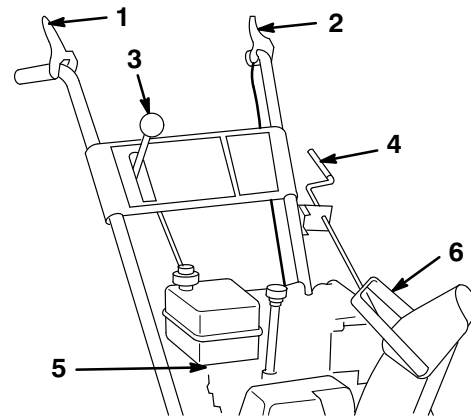

Figure 14
- **Auger/Impeller Drive Control Lever** (Fig. 14)—To engage both the auger and impeller, press the lever against the right handgrip. To disengage, release the lever.
- **Traction Control Lever** (Fig. 14)—To engage the traction (wheel drive), press the lever against the left handgrip. To stop traction, release the lever.
- **Speed Selector** (Fig. 14)—This control has four positions: one reverse and three forward speeds. To change speeds, move gear the shift to the desired position. The lever locks in a notch at each speed selection.
- **Discharge Chute Control** (Fig. 14)—Rotate the discharge chute control clockwise to move the discharge chute to the left and counterclockwise to move the chute to the right.
- **Fuel Shut-off Valve** (Fig. 14)—Close the valve by rotating it to the right to stop fuel flow from fuel tank. Open the valve by rotating it to the left. Close the valve when you do not use the snowthrower.
- **Chute Deflector Handle** (Fig. 14)—Move the deflector handle forward to move the snow stream down and rearward to move the snow stream up.
2. Open the fuel shutoff valve below the fuel tank (Fig. 14) by rotating it to the left.
1. Release the traction and auger/impeller drive controls (Fig. 14).
1. Release the traction and auger/impeller control levers (Fig. 14).